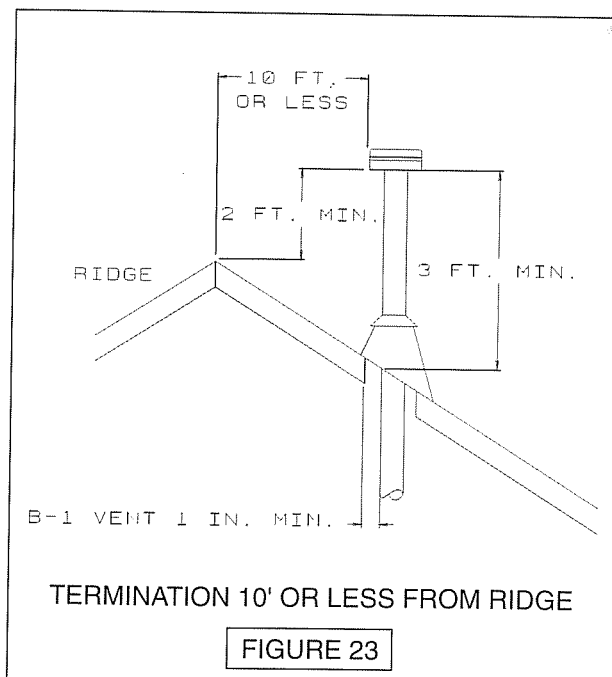

FIGURE 23
2. Vent systems must end at least five feet above the highest gas appliance connection. The vent pipe must extend at least three feet above the point where it passes through the roof. Vent termination must be at least two feet higher than any portion of building within ten feet horizontal and vent termination must be at least two feet higher than roof peaks within ten feet horizontal. See figures 23 and 24 below.